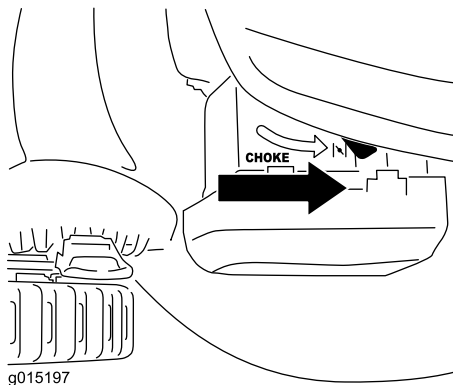

Figure 20
3. When the engine is cold, move the choke lever to the Choke position (Figure 20). Do not use the choke when the engine is warm.